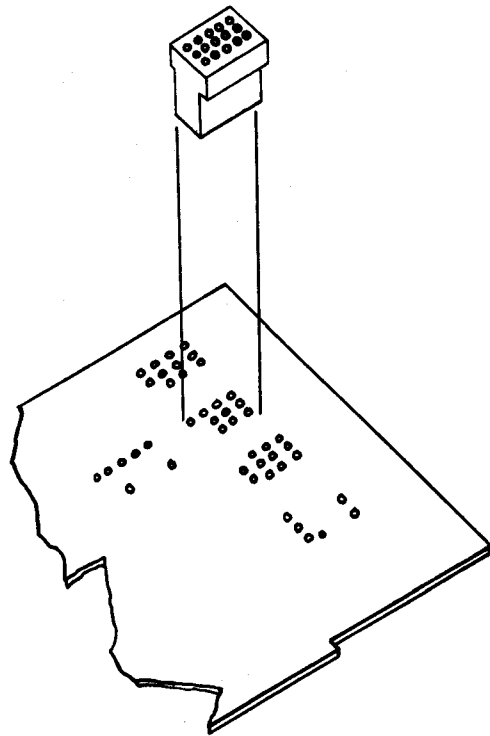

Figure 3-23. Molex Connector Installation
3. After all the pins are inserted, install the Molex Connectors onto the Call/Control Unit Board as shown in Figure 3-23, and solder the connections on the foil (bottom) side of the board.